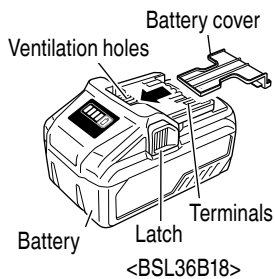

Fig. 4
- **Either install the battery in the power tool or store by securely pressing into the battery cover until the ventilation holes are concealed to prevent short-circuits (See Fig. 4).**